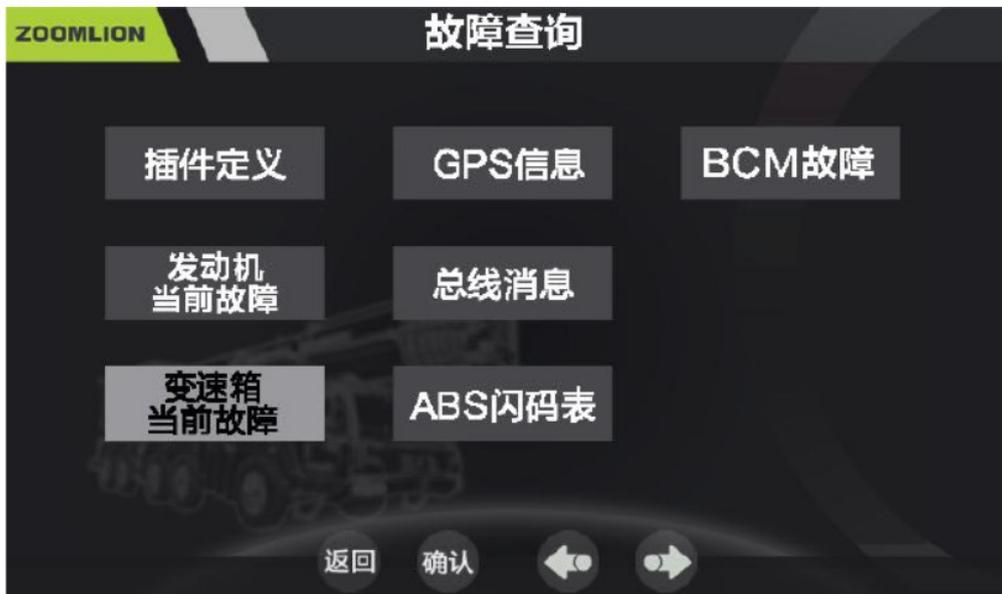

Figure 3-14 Fault check interface
b) The fault check interface is as shown in Figure 3-14.